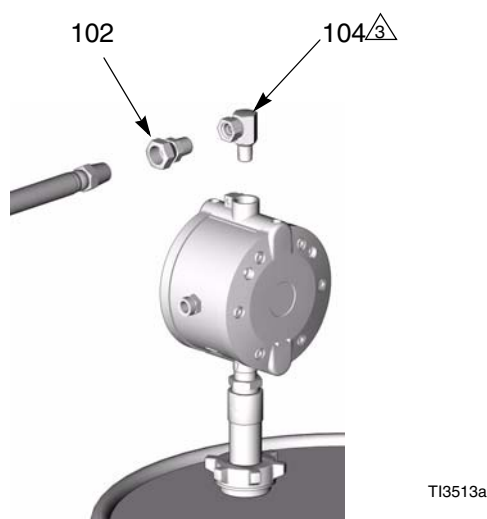

**FIG. 1. Installation**
Place component A (ISO) and component B (RES) drums as desired. Air hose (C) connecting feed pumps is 15 ft (4.57 m) long. See FIG. 1.
- b.** Connect hose (103) between swivel union (102) and Reactor swivel inlet (D). See FIG. 1.
4. Connect hose (1b) between swivel fitting (1c) and Reactor swivel inlet (D, see FIG. 1).
5. Remove elbow and 2 in. bushing supplied with desiccant dryer (6, see FIG. 1). Screw dryer 3/4 npt fitting into vent of A component (ISO) drum.